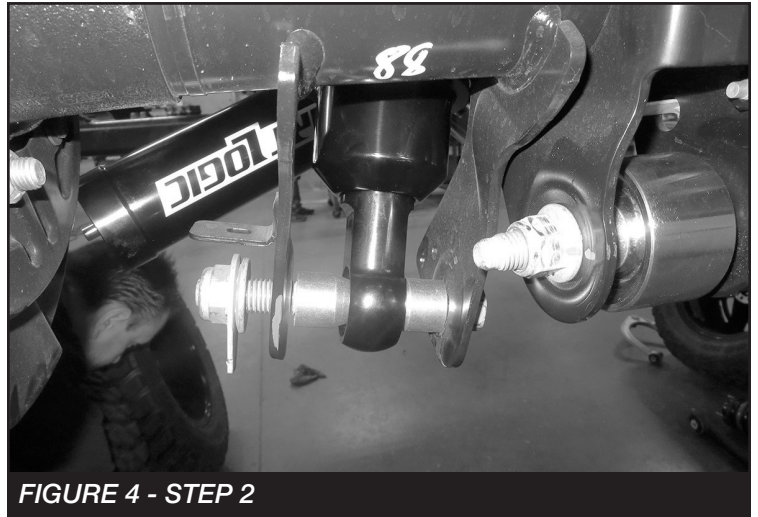

FIGURE 4 - STEP 2
2. Install the lower coilover to the axle mounting using factory hardware as well as two FT30964 (Misalignments). Torque to 160 ft-lbs. **SEE FIGURE 4**